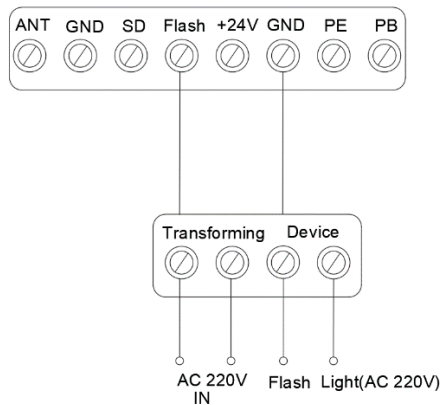
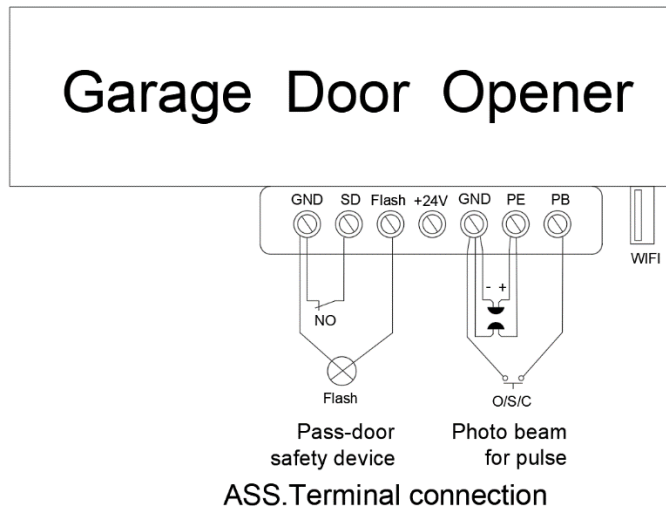

Figure 16
Figure 17
2. Flash light function. (Fig. 16, Fig. 17)
3. Pass door (SD) protection (Fig. 16, Fig. 17)
4. External power supply (BAT) and antenna (ANT), WIFI port.(Fig.17)